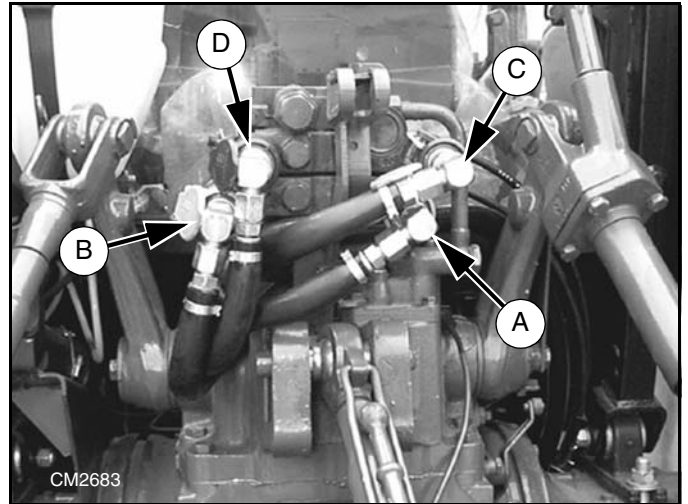

Figure 9. Hose Connection to Tractor Hydraulic Couplers (Typical)
1. Connect hoses to the tractor hydraulic couplers as shown in Figure 9.
2. Connect loader feedline hoses to tractor remote control couplers. See Figure 9.